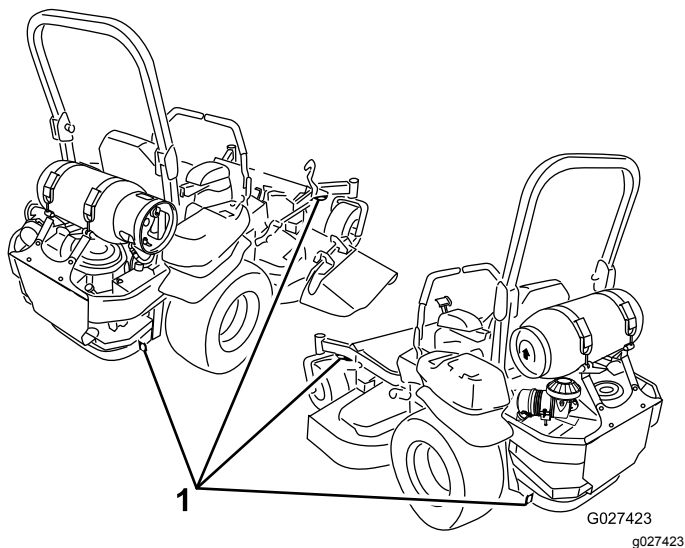

Figure 35
- Securely fasten the machine to the trailer or truck with straps, chains, cable, or ropes. Only use the four designated tie-down locations on the mower—two on the left side and two on the right (see Figure 35). Use these locations even when transporting the mower with an attached accessory. Using non-designated locations may cause damage to the mower and/or attachment.